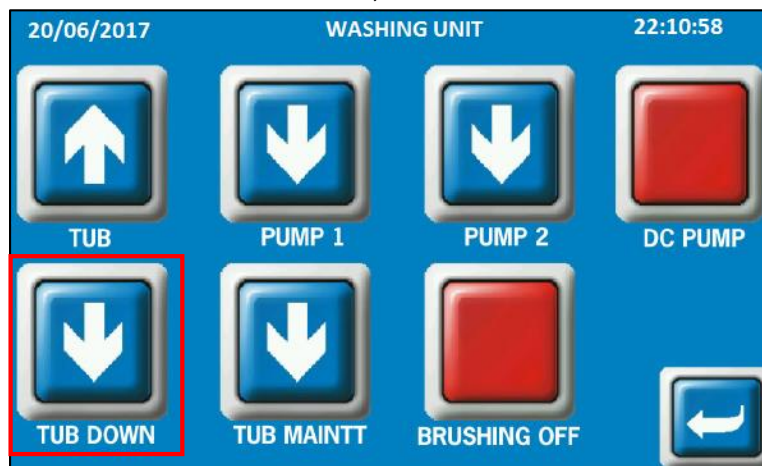

Fig 112: Removing the Washing Tub
- F. Select the **TUB MAINTT** button on the HMI screen to disengage the tub from the trolley (Refer to Fig. 112).